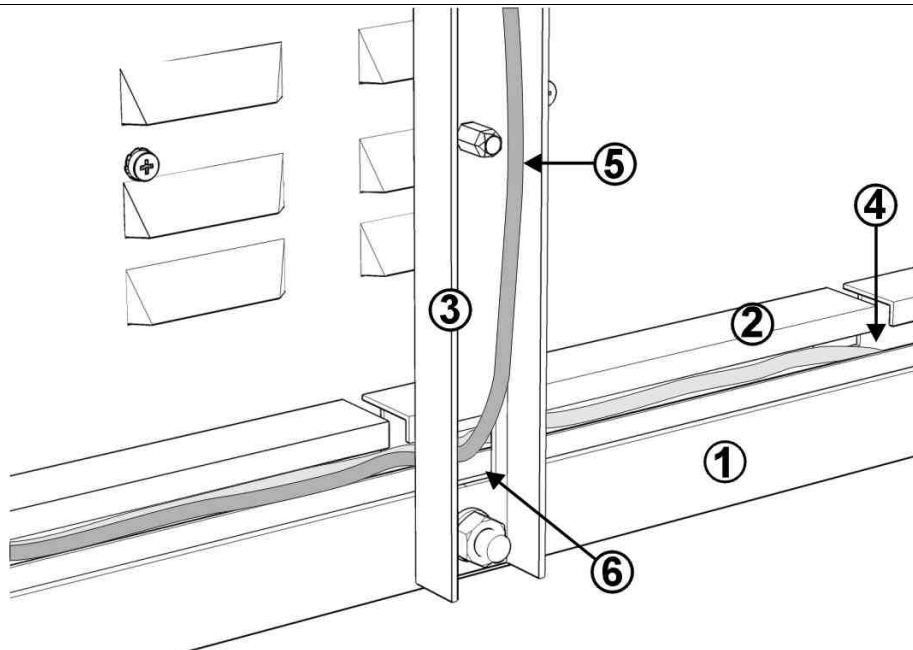
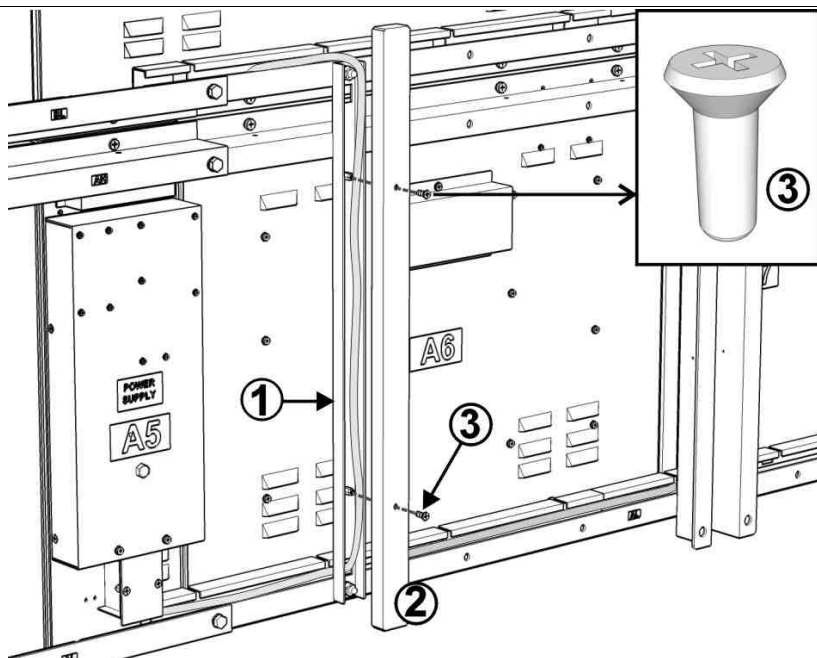

Fig. 8: Insertion of cables in the conduits
Fig. 9: Closure of the vertical cable conduits
- the number ① defines the position of the vertical cable conduit (see also numbers ① and ② in Fig. 9).
1. Introduce the cables of all the modules into the cable conduits through the proper hole (see Fig. 8), until you are able to bring the cables in close proximity of the **POWER SUPPLY** module. At this point, with the proper cover and two **M5x16** screws, close the vertical "cable conduits" for the passage of the cables of the top modules as indicated in Fig. 9.